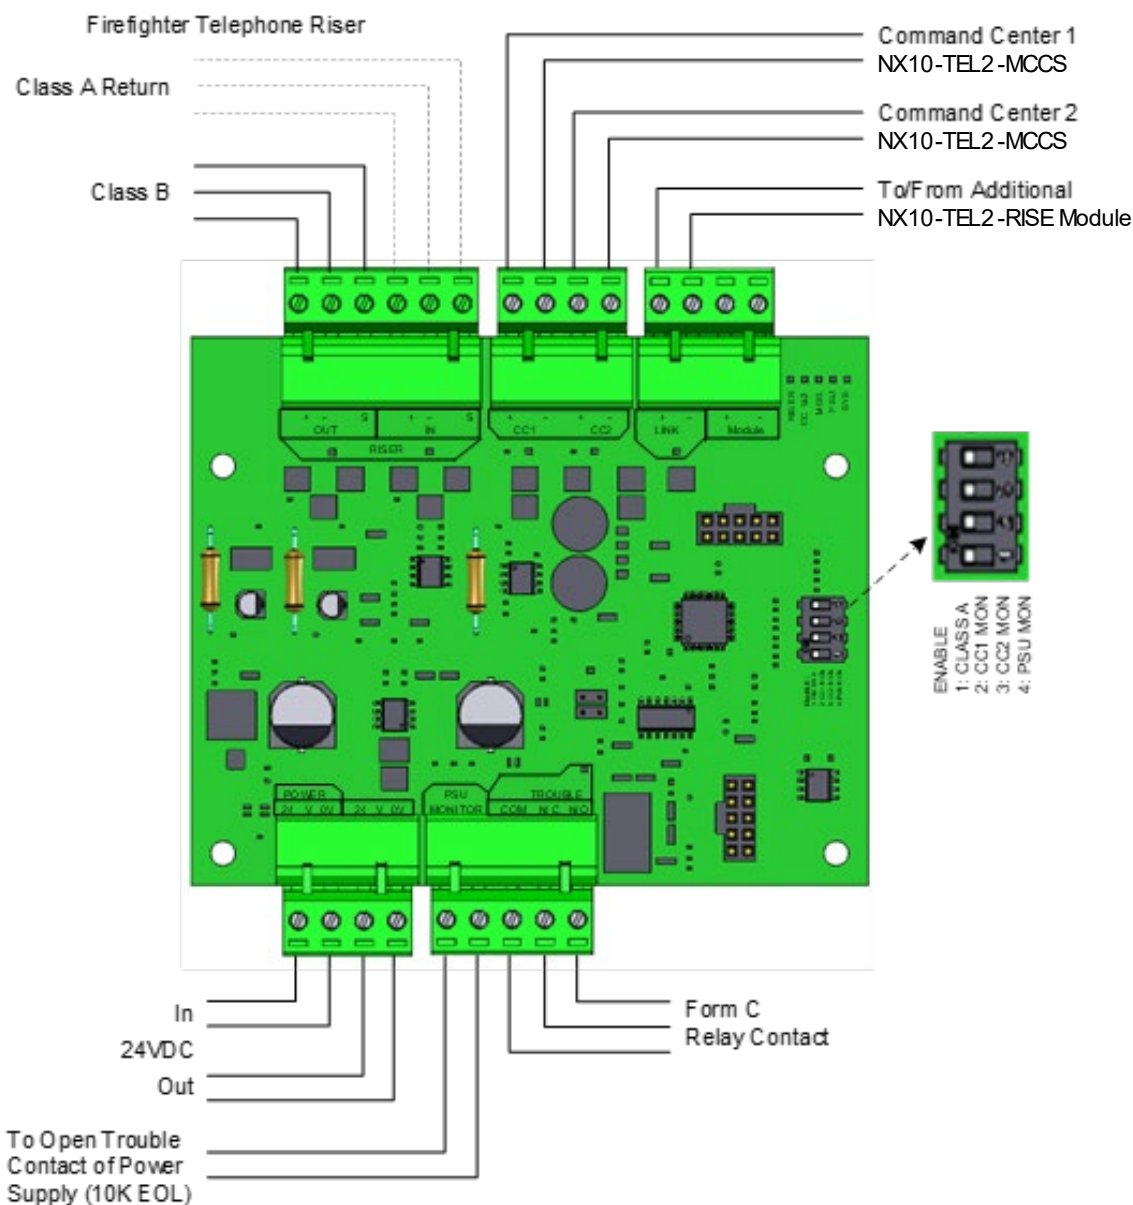

Figure 49 - NX10-TEL2-RISE Module Wiring and DIP Switch
The NX10-TEL2-RISE module requires 24 VDC power from either a Shield NX10-ACS base card, NX10-EM-PSU6 power supply charger, or a fire alarm listed power-limited, filtered, regulated power supply charger. Wire the 24 VDC to the 24V (positive) and 0V (negative) terminals of the NX10-TEL2-RISE module. If supervision of the 24 VDC power supply is required, wire the NX10-TEL2-RISE module's PSU MONITOR terminals to the open trouble relay contact (fail-safe, close on power failure) of the power supply and terminate with the supplied 10K end-of-line resistor (Figure 49).
The NX10-TEL2-RISE module can support two (2) command centre firefighter telephones. Wire the NX10-TEL2-RISE module CC1 + and – (command centre 1) or CC2 + and – (command centre 2) to the command centre NX10-TEL2-MCCS (/P) printed circuit board terminals OUT + and – (Figure 49). In addition, on the NX10-TEL2-RISE module, set the 4 position DIP switch 2 and 3 to their correct monitoring position (ON = monitored) [Figure 49].
The NX10-TEL2-RISE module trouble contact must be monitored by the fire alarm control panel. Based on monitoring method (normally open or normally closed) wire the NX10-TEL2-RISE terminals COM (common) and NO (normally open) or COM (common) and NC (normally closed) terminals to the monitoring input (NX10-ACS base card ANC FAULT, keyboard display switch input or addressable monitoring module zone input) [Figure 49].